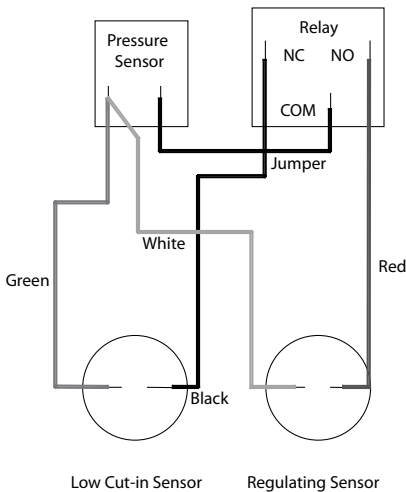

Figure 1: SubDrive NEMA 3R Wiring
4. Use the supplied six conductor pressure sensor cables and connect to the pressure sensors. (See Figure 1, pg. 5 for NEMA 3R Wiring Diagram.)